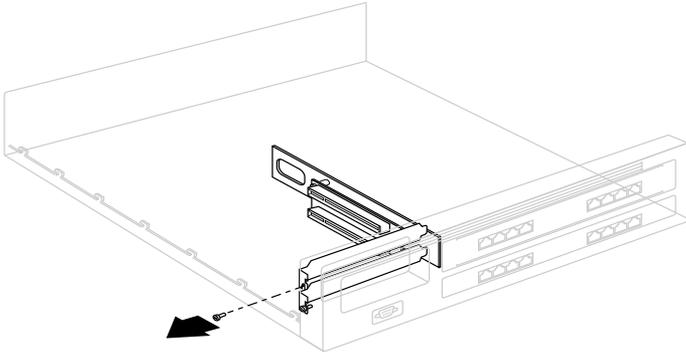

Figure 8: Cover Plate Removal for Top PCI Slot
1. Using a #1 Phillips screwdriver, remove the screw that secures the cover plate to the uplink panel (Figure 8).